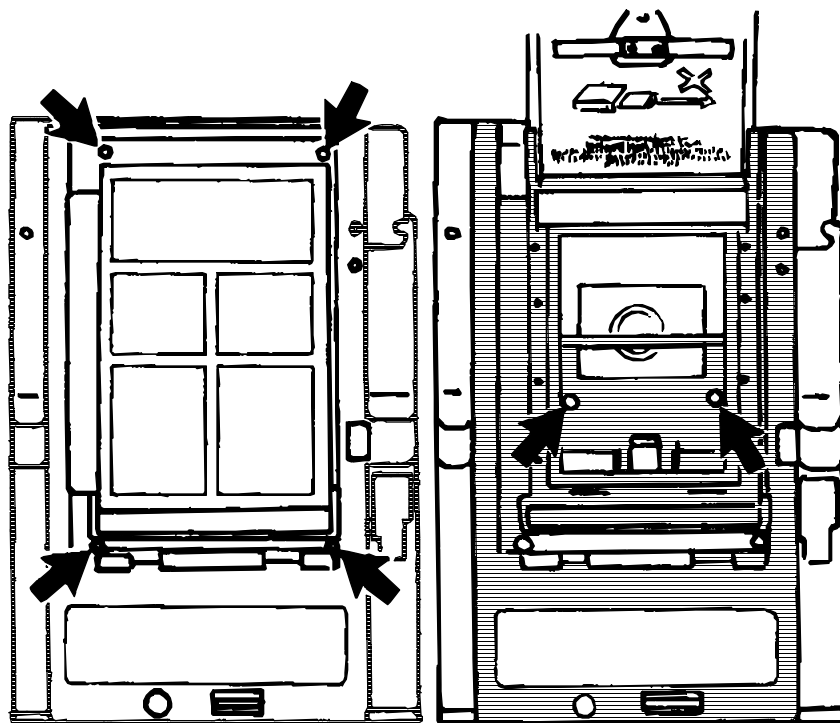

Figure 4-15 Removing Back Plate Screws
- 1.3 Remove six screws from Back Plate. Slide Camera Back half-way down and open door to gain access to top and middle screws. (Fig. 4-15)